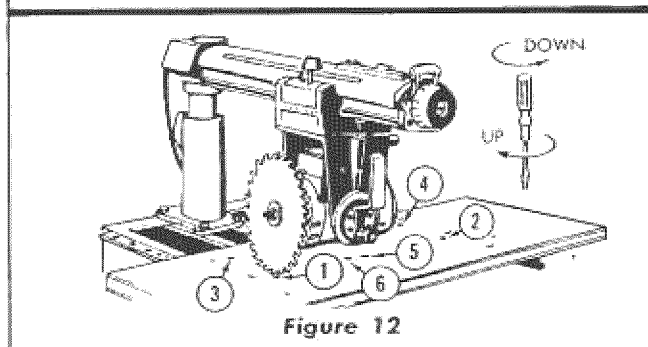

Figure 12
4. Loosen arm latch handle (20, figure 24) enough to obtain free movement of radial arm, release arm latch lever (1, figure 24) and loosen carriage lock knob and move it to points (1, 2, 3 and 4, figure 12) to find at which of these points the blade first touches the top of the table.
5. The high point must be at one of the front screw holes before continuing the paralleling procedure. If high point is not at the front, adjust the screw at point (1, figure 12) so the high point is created at the front near point 1. Raise the blade slightly to pick-up a "pinging" sound at this new high point.
11. Move the saw blade to all four screw positions to recheck for proper paralleling of table. (Points 1 through 4, figure 12.)